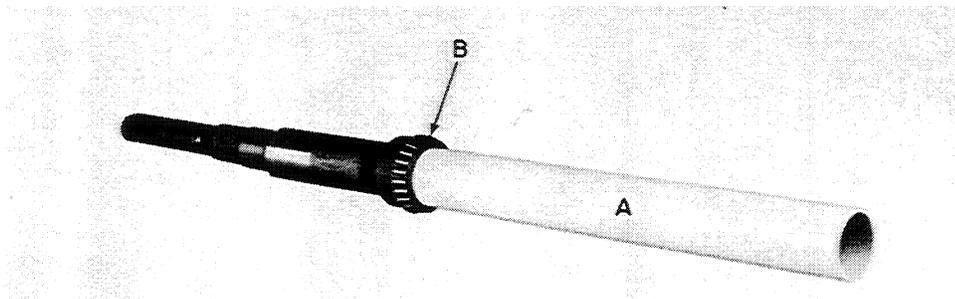

FIGURE 25
1. Pipe is used to press the right tapered roll bearing, B, Figure 25, into position. Use a steel pipe, A, Figure 25, with a minimum ID of 2¼" (57 mm) a maximum OD of 2½" (64 mm) and a minimum length of 14" (356 mm).